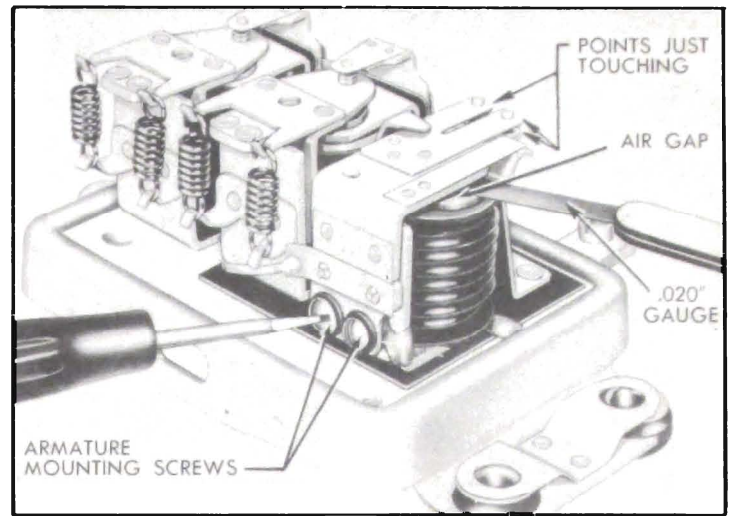

Figure 10-29—Adjustment of Cutout Relay Air Gap
1. Place finger on armature directly above core and move armature down until contact points just close. If both sets of points do not close simultaneously, bend spring fingers so that they do. *With points just closed*, measure air gap between armature and center of core; gap should be .020", measured with feeler gauge. Adjust air gap, if necessary, by loosening armature mounting screws and raising or lowering armature as required. Tighten screws securely and recheck air gap. See figure 10-29.